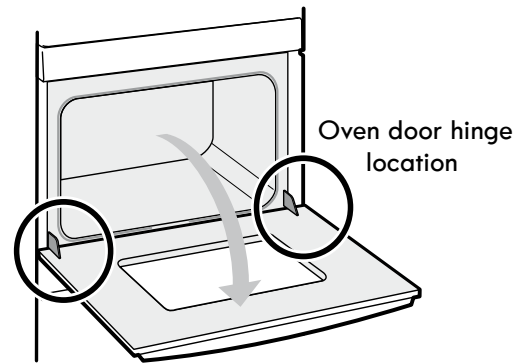

Figure 1 - Door hinge location
3. Fully open the oven door (horizontal with floor- See Fig. 1).